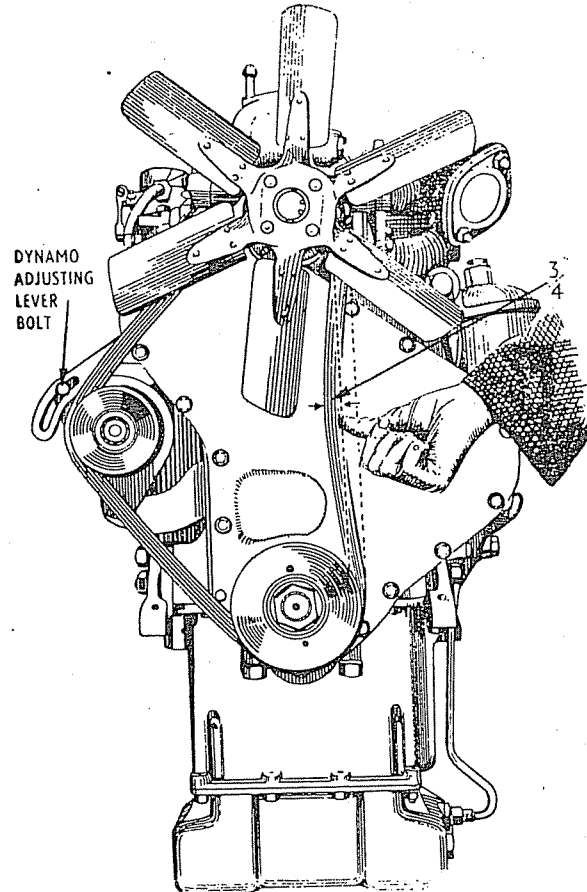

Fig. 32.
- (1) Press the fan belt with the thumb at the centre point between the water pump pulley and the crankshaft pulley in a sideways direction (See Figure 32).
- (2) Check the amount of movement of the fan belt which should be $\frac{3}{4}$ inch if correctly adjusted.